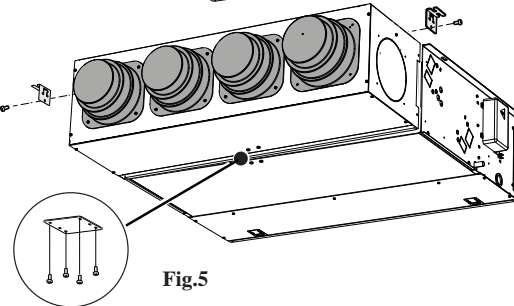

Fig.5
- In the PM670V size, the external support bracket must be installed with the 4 screws provided (fig.5).